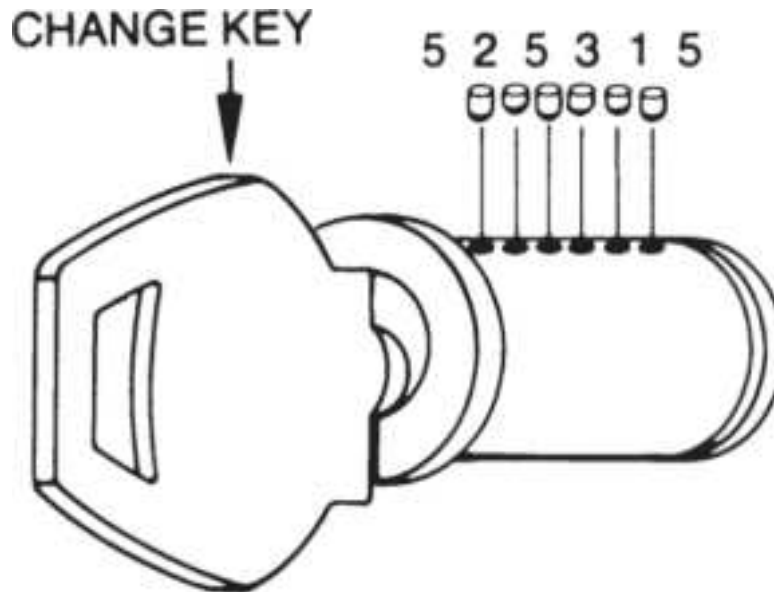

**Figure 9.20** Pin length corresponds to the change-key combination. (*Emhart Corp.*.)
7. Write down the new combination. As an example, suppose the original change-key bitting is 513525 and we wish to reverse it to 525315 (Fig. 9.20 ).